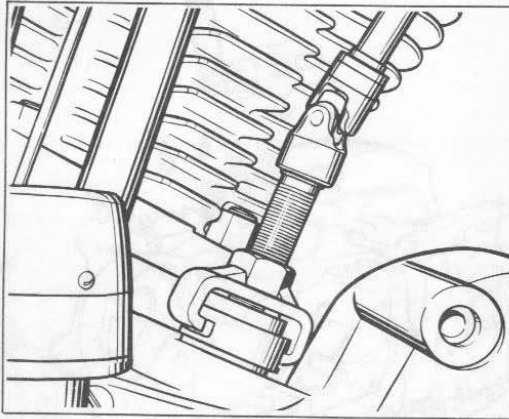

Figure 3-31. Removing Tappet Guide (1976 and Earlier)
Tappet Guide Puller, Part No. 95724-57, in mating grooves of tappet guide (3). Before turning tappet guide (3) from crankcase, be sure cam gear is installed in case for tappet to butt against when using puller (see Figure 3-31). For 1977 and later models, remove tappet guide screw (1) and remove tappet guide (3). It may be necessary to remove cylinders to remove front and rear intake tappet guides. Mark valve tappets in some manner to identify them as to location.